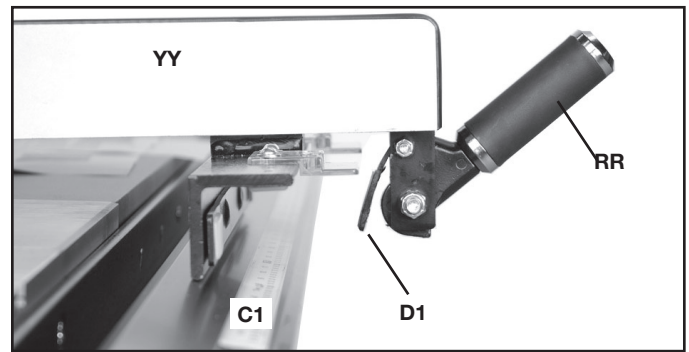
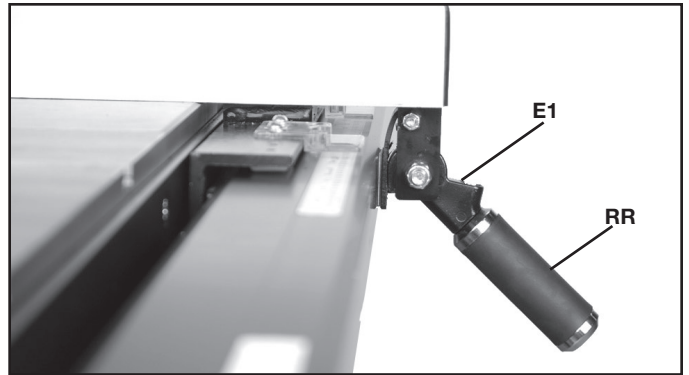

FIG. 28
FIG. 29
When clamping the fence assembly (YY) Fig. 28 to the guide tube (C1), make certain the camfoot (D1) is hanging down and in between the locking handle (RR) and the guide tube (C1) — not caught on top of the guide tube.
A properly clamped fence assembly is shown in Fig. 29.
To move the fence along the guide tube, simply lift up the locking handle (RR) Fig. 29, as shown, slide the fence to the desired position on the guide, and push down locking handle (RR) Fig. 28 as shown, to lock in position.
NOTE: A magnet (E1) Fig. 29, is provided to hold the handle in the up position (as shown in Fig. 28) when moving the fence.